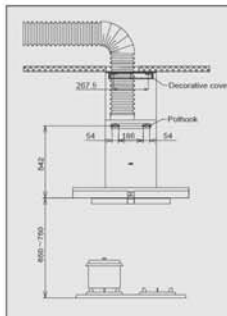

Fig.1
- Refer to Fig 1, set the right position on the wall to drill and then firmly imbed the expansion pipe. Insert wooden screws to tighten the fixed hook and decorative cover hook; you can also use two ST3.9X9.5 self-tapping screw to fix the decorative cover on the suspended ceiling.
- Install the exhaust pipe according to Fig 1: check the pipe shell is not bulging and not shriveled, curve freely. The exhaust pipe and wall should be tightly connected to prevent smoke back, the backflow barrier blade should be up and down smoothly.